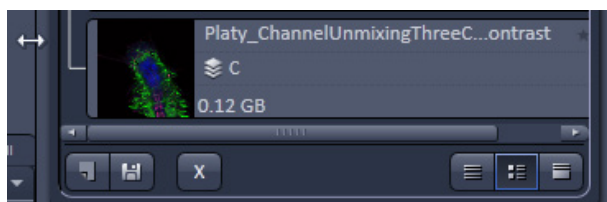

Fig. 280 Enlarging the image view
- In case long filenames are used the whole section can be dragged to the left and thereby enlarged (Fig. 280).